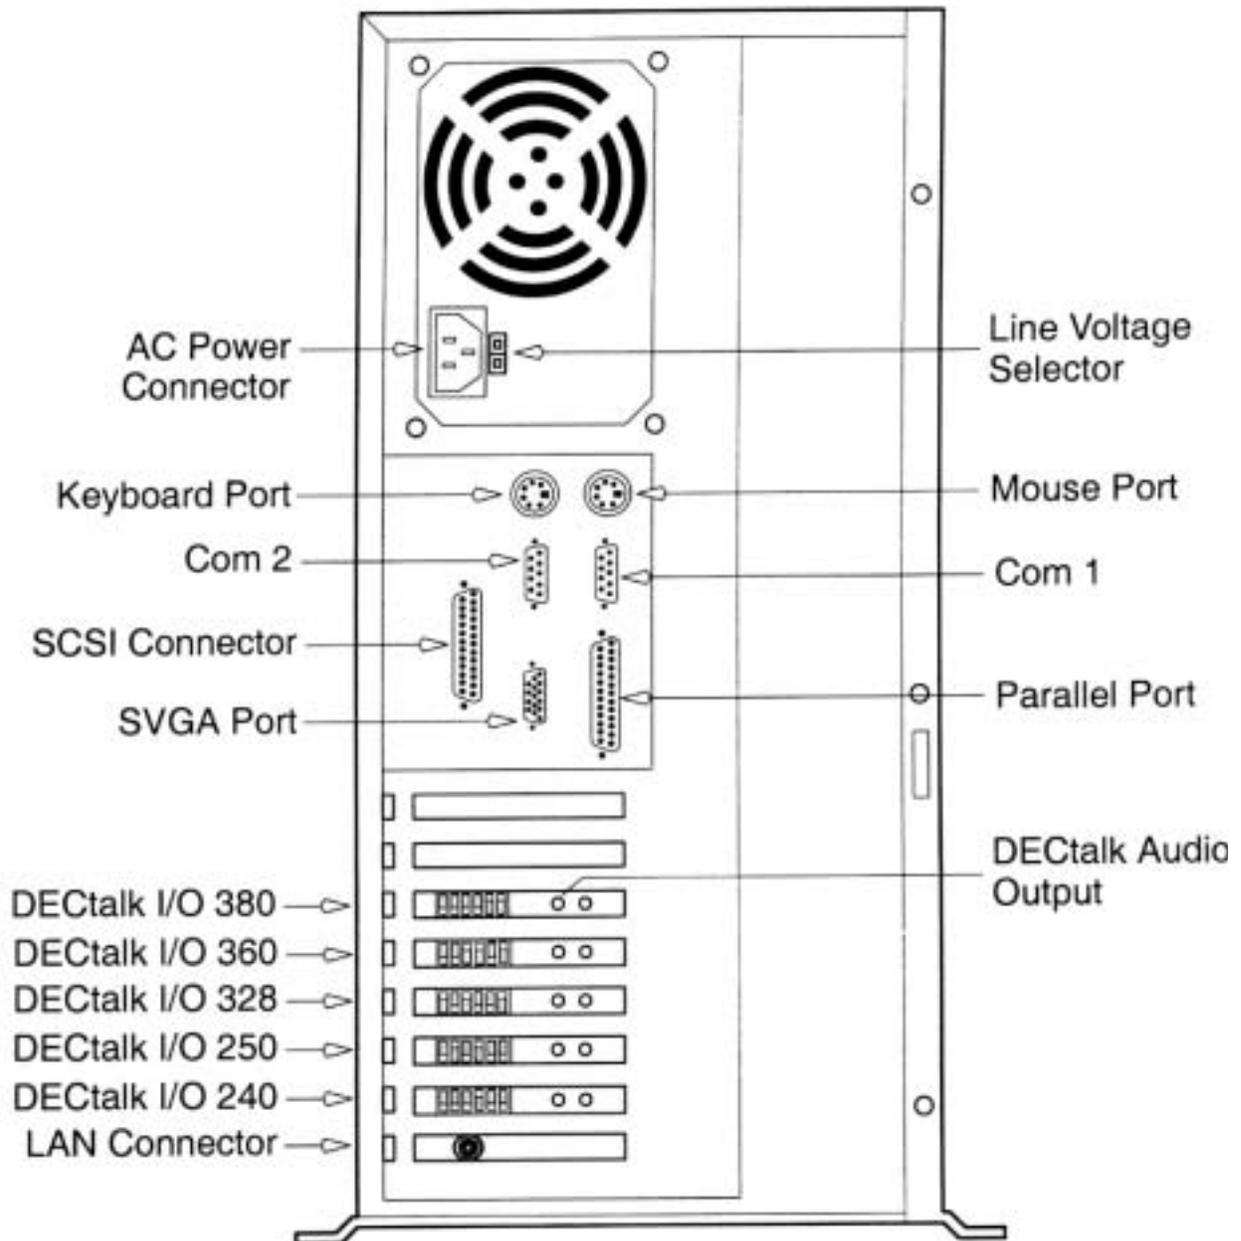

Figure A-5. Front-end Processors—Rear View
- Figure A-5.** Front-End Processors—Rear View